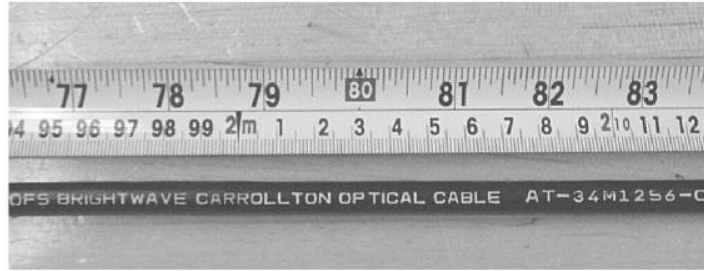

Figure 16 - Measure and mark the cable.
5.1 To begin Mid-span procedure, measure and mark two points 300mm apart on the area of sheath to be removed for the reversal point of the buffer tubes to later be identified. (Figure 16).